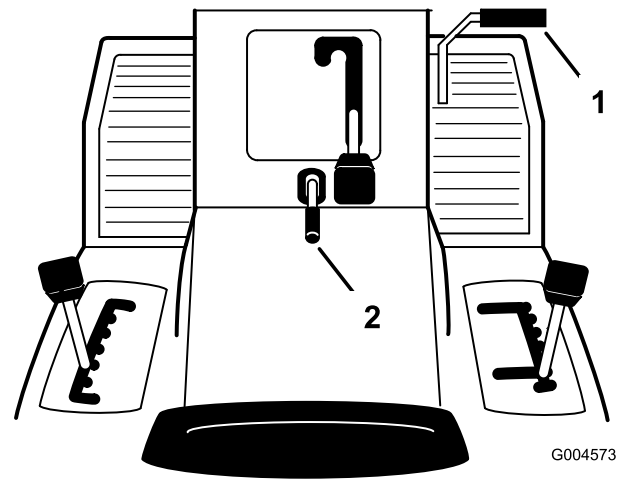

Figure 8
1. Push the clutch/brake pedal (Figure 8) down and hold it.
2. Lift the parking brake lever (Figure 8) up and gradually take your foot off the clutch/brake pedal.
1. Push down on the clutch/brake pedal (Figure 8).